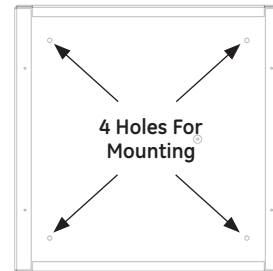

FIGURE 3
- Secure the mounting box accessory to the ceiling surface using 4 suitable fasteners, and anchors where applicable. Minimum recommended fastener diameter  $\frac{1}{4}$ " (See Figure 3).